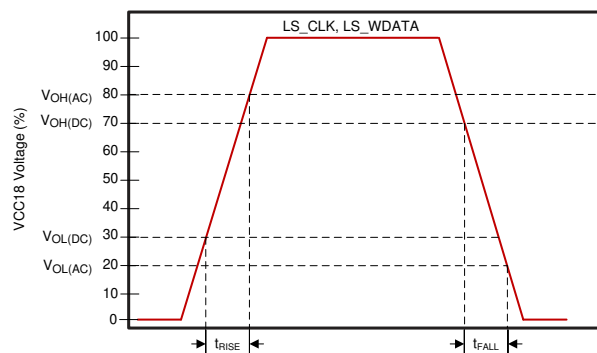
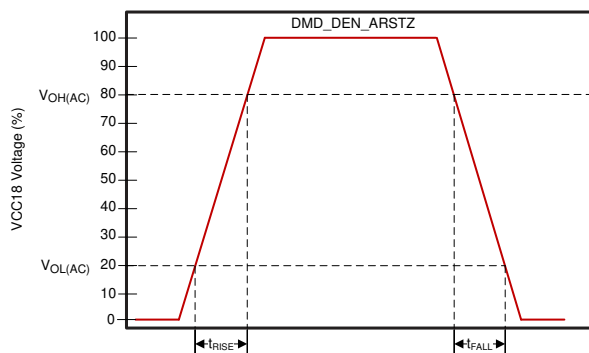

Figure 5-3. LS_CLK and LS_WDATA Slew Rate
Figure 5-4. DMD_DEN_ARSTZ Slew Rate
- (1) $V_{OH(AC)}$ maximum applies to overshoot. When the DMD_LS_WDATA and DMD_LS_CLK lines include a proper 43-Ω series termination resistor, the DMD operates within the LPSDR input AC specifications.
- (2) $V_{OL(AC)}$ minimum applies to undershoot. When the DMD_LS_WDATA and DMD_LS_CLK lines include a proper 43-Ω series termination resistor, the DMD operates within the LPSDR input AC specifications.
- (3) See Figure 5-3 for DMD_LS_CLK, and DMD_LS_WDATA rise and fall times. See Figure 5-4 for DMD_DEN_ARSTZ rise and fall times.